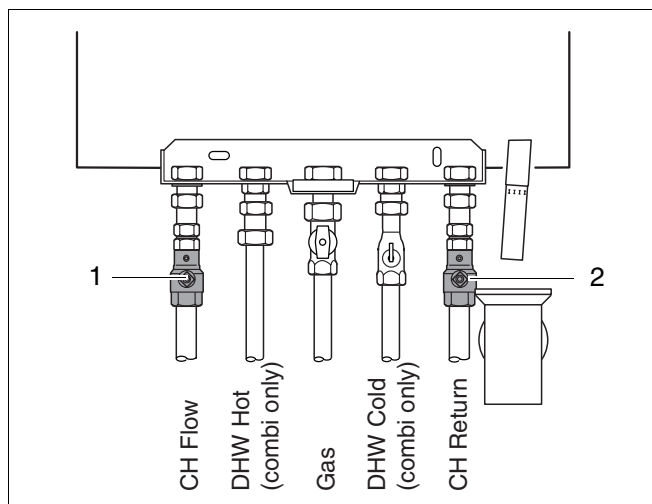

Fig. 26 Maintenance shutoff valves
- If necessary open the CH flow and CH return maintenance valves (fig. 26, item 1 and 2).